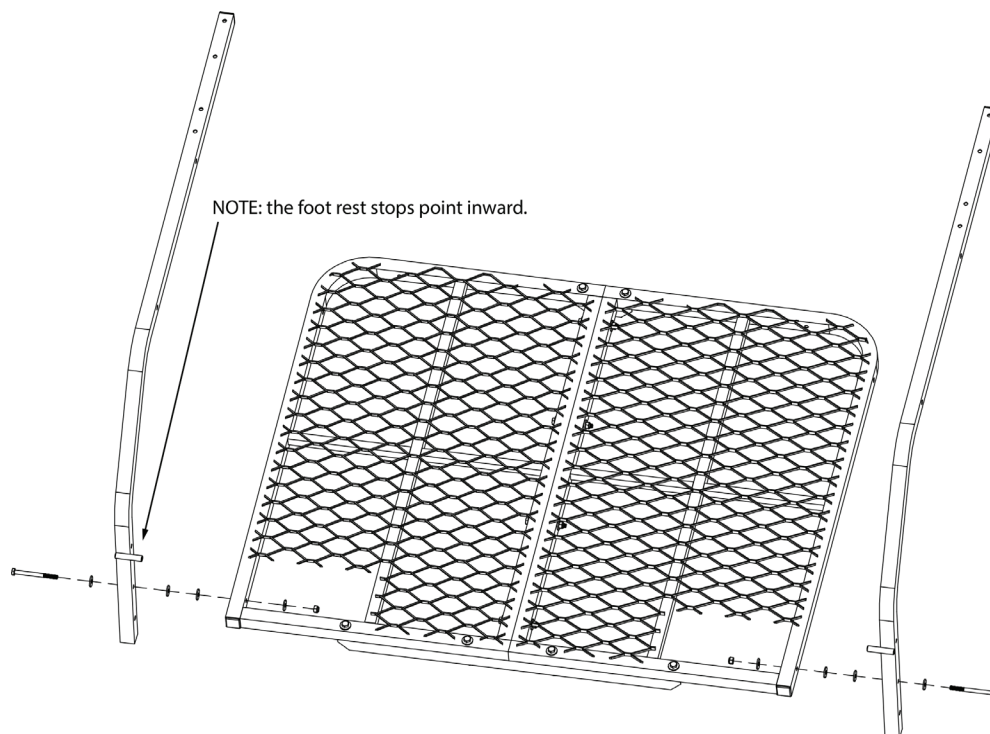

Figure 19
STEP 4: **NOTE: from this point on do not tighten any nuts until all bolts are installed on the stand.** Connect the uprights to the platform using two (2) 1/4" x 3" bolts, eight (8) washers and two (2) nuts. Place one (1) washer under the head of bolt, two (2) washers between platform and upright and one (1) washer under the nut. Make sure the foot rest stop is pointing inward as seen in Figure 19.